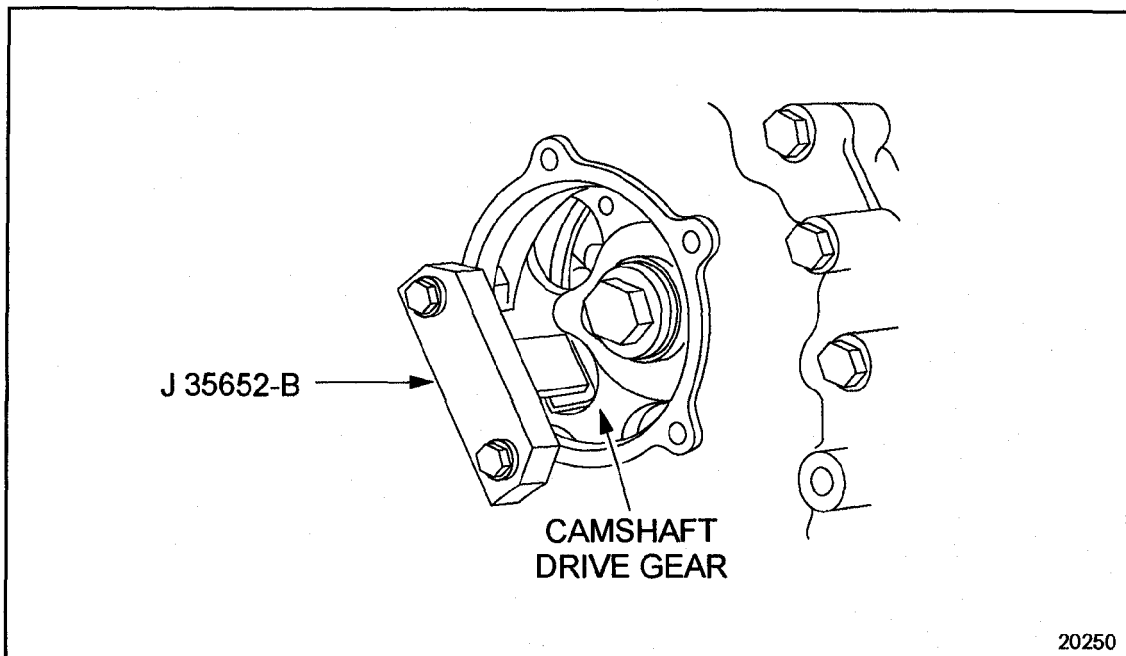

Figure 1-322 Installation of Camshaft Drive Gear Torque Holding Tool
11. Insert the shoe of the camshaft drive gear torque holding tool, J 35652, through a lightening hole of the camshaft drive gear. See Figure 1-322.
9. With a new square cut seal (and shim, if required) installed in the cylinder head oil passage seal recess, replace the number 1 cam cap. Install a new cap stud seal (part number 23521111) onto the flange of the camshaft cap stud, then thread the stud and the camshaft cam bolt into the cylinder head. See Figure 1-322. Alternating back and forth, torque cap stud and bolt progressively to 128–148 N·m (94–109 lb·ft).